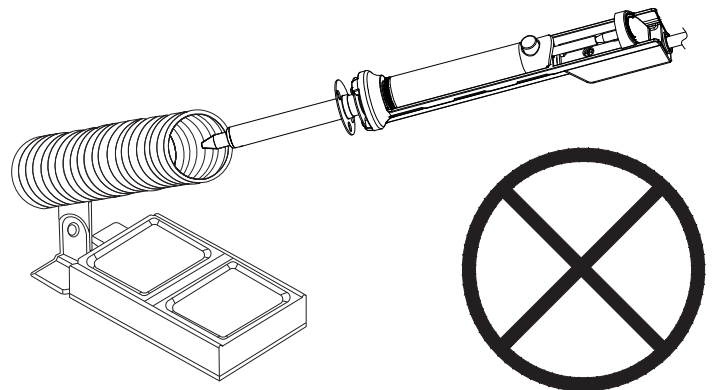

Fig. 3 - Do not place in coil holder
- Do not place De-Soldering Iron in coil stand (Fig. 3).